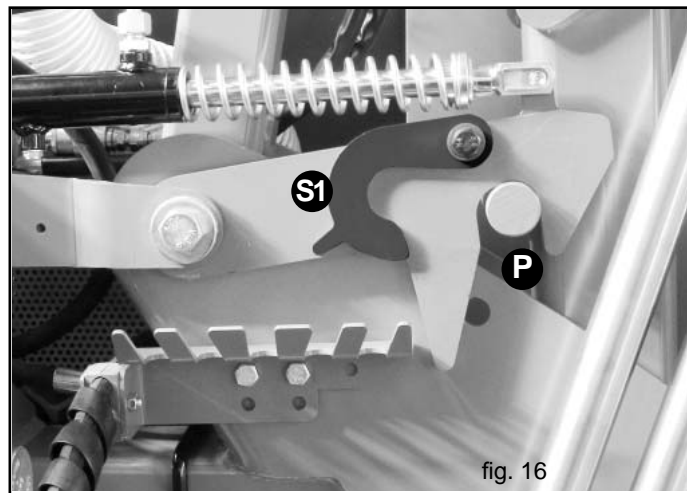

fig. 16
NOTE. Make sure that the clips have fully fitted into the relative safety pins in the frame (P, Fig. 16).
- 9) Get off the tractor and turn the locking clips until they have completely detached from the pins (S1, Fig. 16).